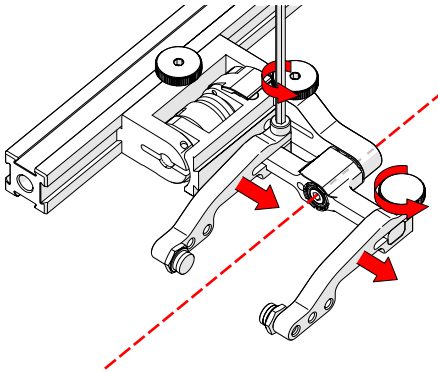

Fig. 47 - Adjust probe holder arms
5. Loosen the probe holder arm adjustment knob (Fig. 47) and remove the outer probe holder arm from the yoke.
6. Adjust the inner probe holder arm as required to best centre the probe on the yoke's pivot axis (Fig. 47).
**TIP:** The probe holder yoke can accommodate many different probe and wedge sizes of varying widths. It is best to centre the wedge with the yoke's pivot axis to reduce wedge tipping when scanning. Position the inner probe holder arm accordingly with the centre of the yoke (Fig. 47).